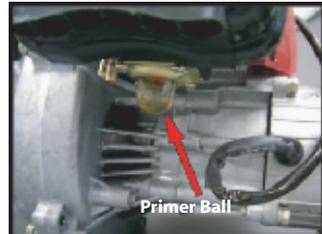

Fig. 5
2. Push primer ball until all excess fuel empties into draining container or pan (Fig. 5).